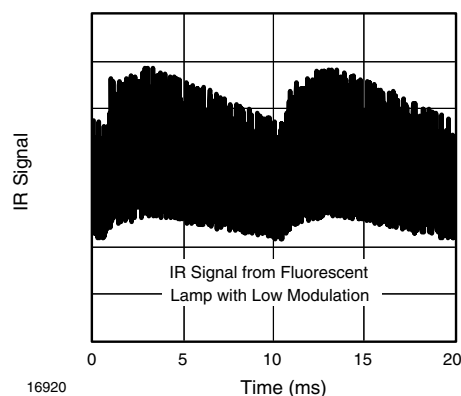
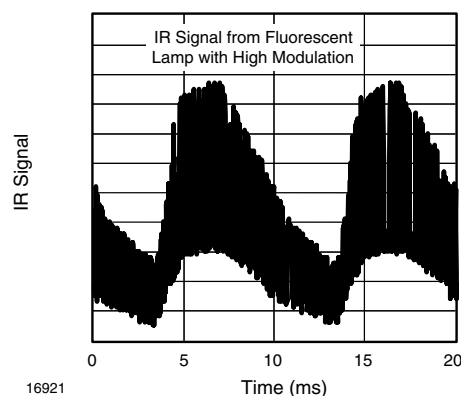

Fig. 15 - IR Signal from Fluorescent Lamp with Low Modulation
Fig. 16 - IR Signal from Fluorescent Lamp with High Modulation
- Strongly or weakly modulated noise from fluorescent lamps with electronic ballasts (see figure 15 or figure 16)